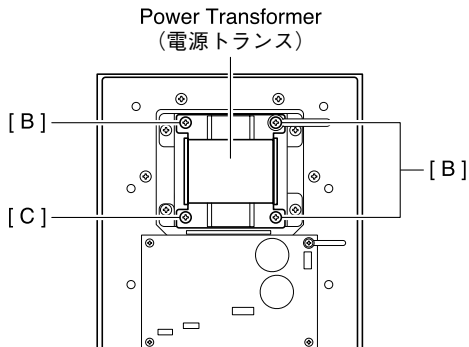

Fig. 4 (図 4)
- 4-2 Remove the three (3) screws marked [B] and screw marked [C]. The power transformer can then be removed. (Fig. 4)
- 4-2 [B]のネジ3本、[C]のネジを外し、電源トランスを外します。(図 4)
- 5-2 Remove the three (3) screws marked [B] and screw marked [C]. The power transformer can then be removed. (Fig. 4)
- 5-2 [B]のネジ3本と[C]のネジを外し、電源トランスを外します。(図 4)